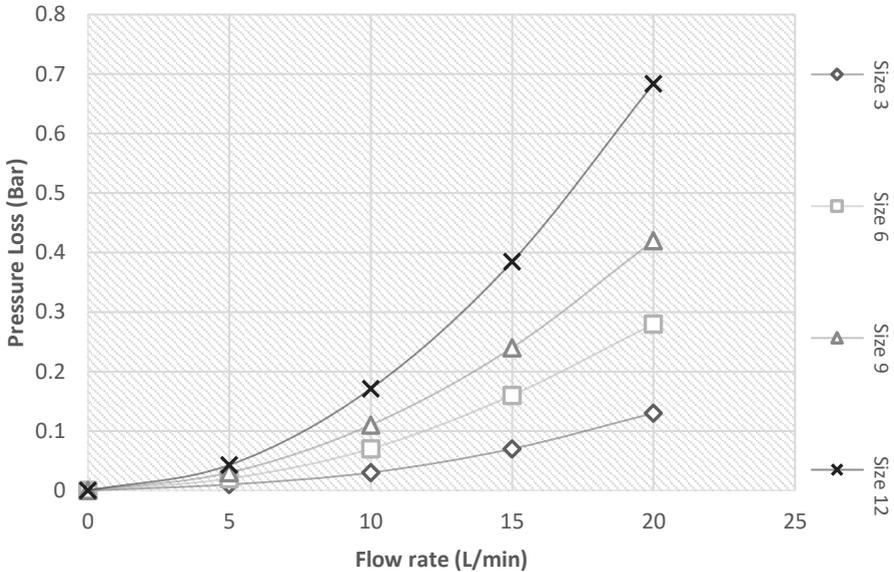
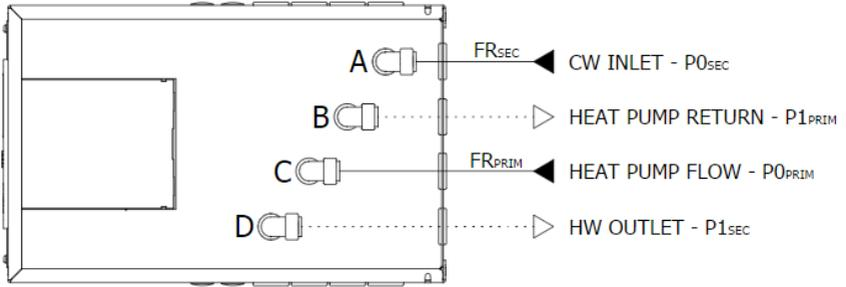

Figure 6.1: UniQ HW +iLTHP Heat Battery Secondary circuit pressure loss characteristics graph
Figure 6.3: Pressure loss at inlet & outlet of the Heat Battery
The primary circuit ports C & B of the heat battery are connected to the heat pump flow and return as shown schematically in (Figure 6.3). The primary circuit design flow rate will depend upon the thermal rating of the heat pump and the design temperature difference. For a typical system, the primary flow rates are given in (Table 9),
The secondary ports A & D of the heat battery are connected to dwelling hot water circuit as shown schematically in (Figure 6.3). The pressure loss values can be read in (Figure 6.1).
**Note:** The mains cold water inlet connects to port A; Hot water outlet connects to port D. Meanwhile the LTHP flow pipe connects to Port C and the LTHP return pipe connects to Port B (Figure 6.3).